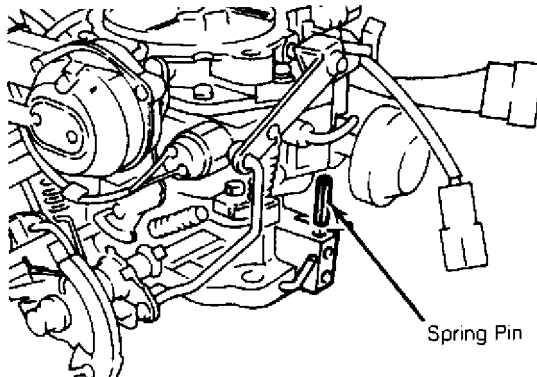

Fig. 9: Removing Carburetor Mixture Screw Roll Pin (B2200 Carbureted)
1) Check for presence of mixture screw roll pin. See Fig. 9. If roll pin has already been removed, go to next step. If roll pin is present, remove air cleaner and carburetor. Drive out mixture screw roll pin. Install carburetor.